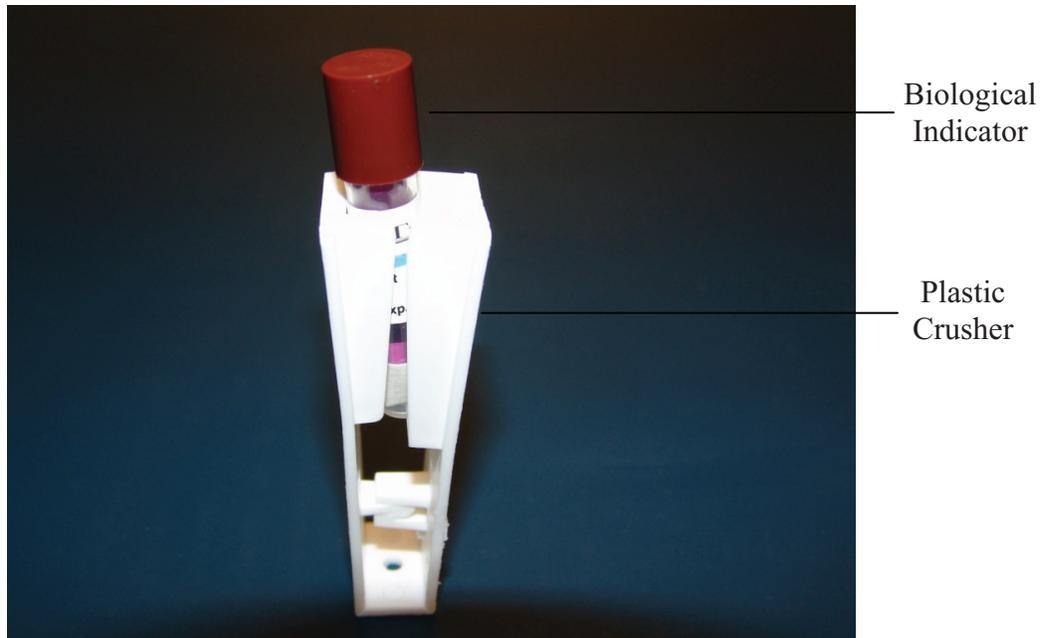

Figure 1: BTSure Biological Indicator in Plastic Crusher
- 9.1. Figure 1: Biological Indicator in Plastic Crusher